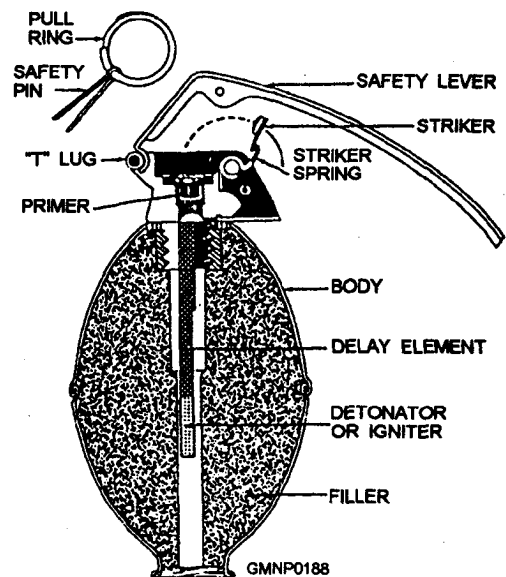

Figure 3-114.—Functioning of the fuze.
- Delay fuzes are used in all standard hand grenades. Detonation of the grenade is not on impact but after the delay element in the fuze has burned. The fuze assembly (fig. 3-114) consists of a the body, a